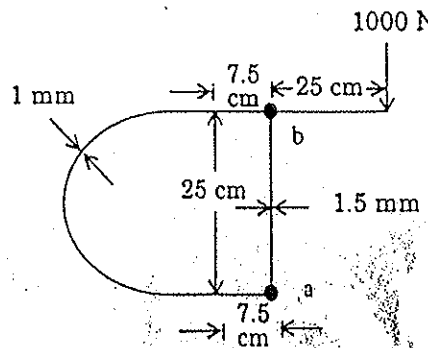

Fig. 2
- (b) Determine the shear flow and shear center for the section shown in Fig. 2.